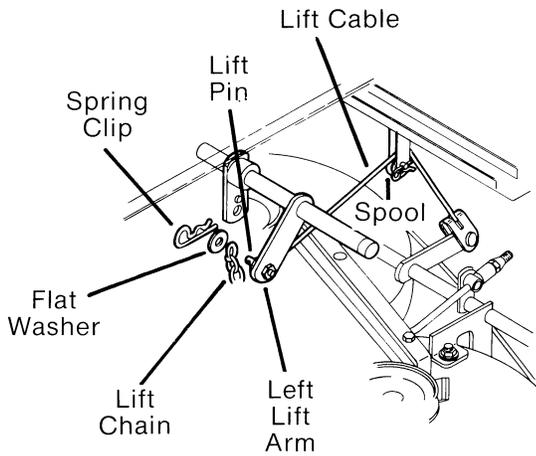

FIG. 4
- G. Route lift cable up and over spool and hook end of cable onto lift pin. (Fig. 4)
- H. Slide end link of lift chain onto lift pin. See (Fig. 4)
- I. Secure chain and cable to lift pin with a flat washer and spring clip. (Fig. 4)
- G. Remove spring clip and flat washer holding lift chain and lift cable onto lift pin. (Fig. 4) Remove lift chain and lift cable from lift pin and slide lift cable through and off of spool. (Fig. 4)